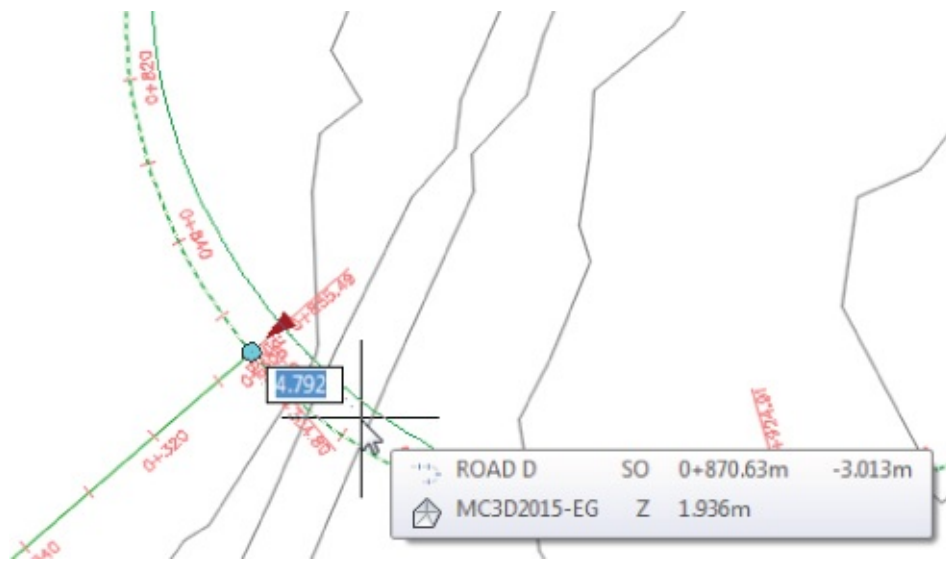

Figure 7.35 Grip-editing the alignment curve by sliding the triangular grip toward the inside of the curve
12. Close the Profile Properties dialog; then in plan view zoom to the curve around station 28+00 (0+853 for metric users). Grip-edit the alignment's curve by selecting the triangular grip, sliding it toward the inside of the curve as shown in Figure 7.35, and clicking a new location not too far from the original location.